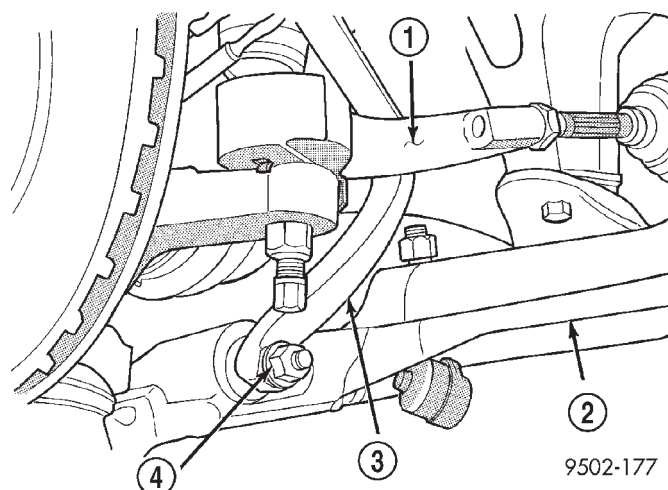

Fig. 10 Clevis To Lower Control Arm Attaching Bolt
(9) Remove the nut and thru-bolt (Fig. 10) attaching the shock absorber clevis to the lower control arm.
(10) Remove the clevis from the shock absorber by carefully tapping the clevis off the shock absorber using a soft (brass) drift.
(4) Install the clevis bracket to lower control arm thru-bolt (Fig. 10). Do not tighten or torque the thru-bolt at this time.